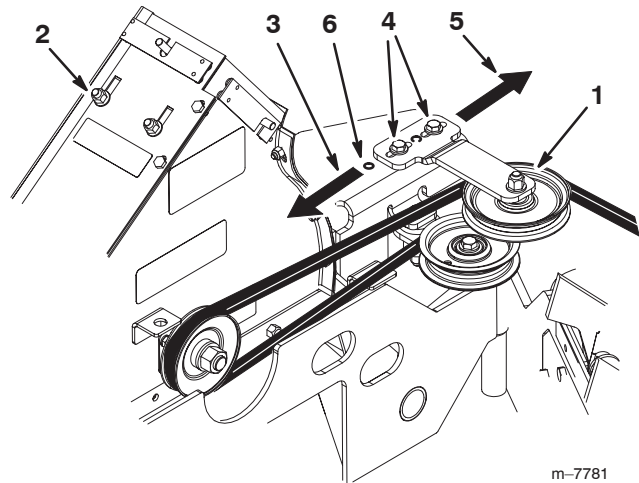

Figure 33
5. Loosen the two bolts that hold the fixed idler to the blower assembly (Fig. 33).
Important There are two extra holes in the blower assembly that can be used to obtain the correct belt tension. If needed, remove the fixed idler and install it in the extra holes to get more belt tension adjustment (Fig. 33).
6. Adjust the fixed idler towards the rear to **lengthen the spring and increase belt tension** (Fig. 33).
7. Adjust the fixed idler towards the front to **shorten the spring and decrease belt tension** (Fig. 33).
8. Tighten the two bolts that hold the fixed idler to the blower assembly (Fig. 33).